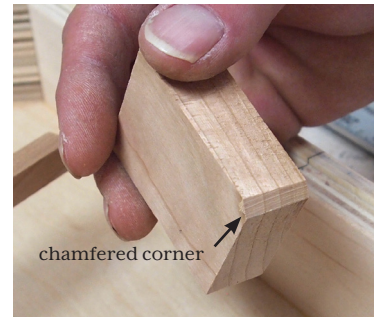

FIG. 5
- ___8. One more BRIDGE SUPPORT BLOCK is needed for the internal bracing. We like to chamfer the bottom corner of this block just to make sure we can glue it firmly to both the back panel and the rear rail without any interference from dried glue residue along the inside corner of the box. (fig. 5)